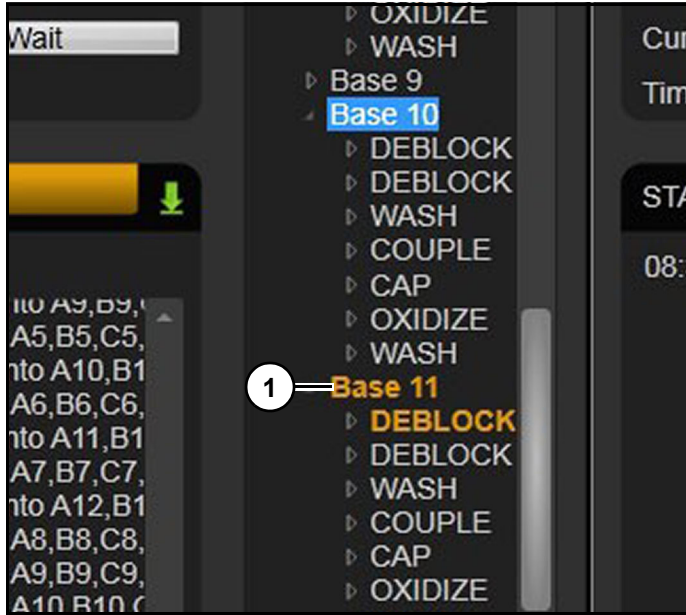

Figure 104
Once a pause is initiated, location of pause will be highlighted orange (1). (Figure 104)